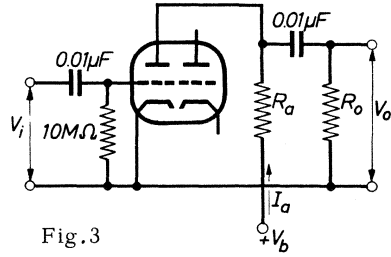

Fig. 3
A. F. amplifier Fig. 3 see page 9 Input source resistance = 330 kΩ